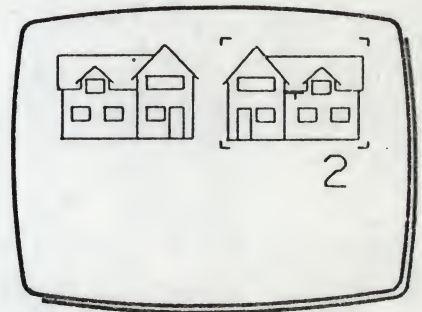

Fig 2
- 9 Plant the house as (2) in Fig 2. The house appears as a mirror image of (1) about the vertical axis.